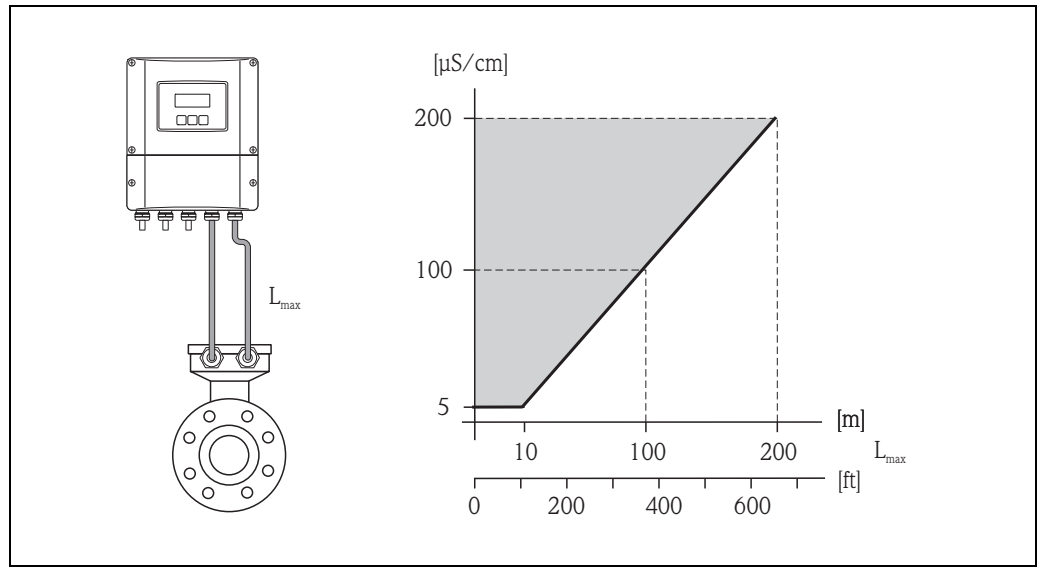

Fig. 16: Permitted lengths for connecting cable in remote version, as a function of the conductivity of the fluid
- The permissible cable length  $L_{max}$  depends on the fluid conductivity ( $\rightarrow$  Fig. 16).